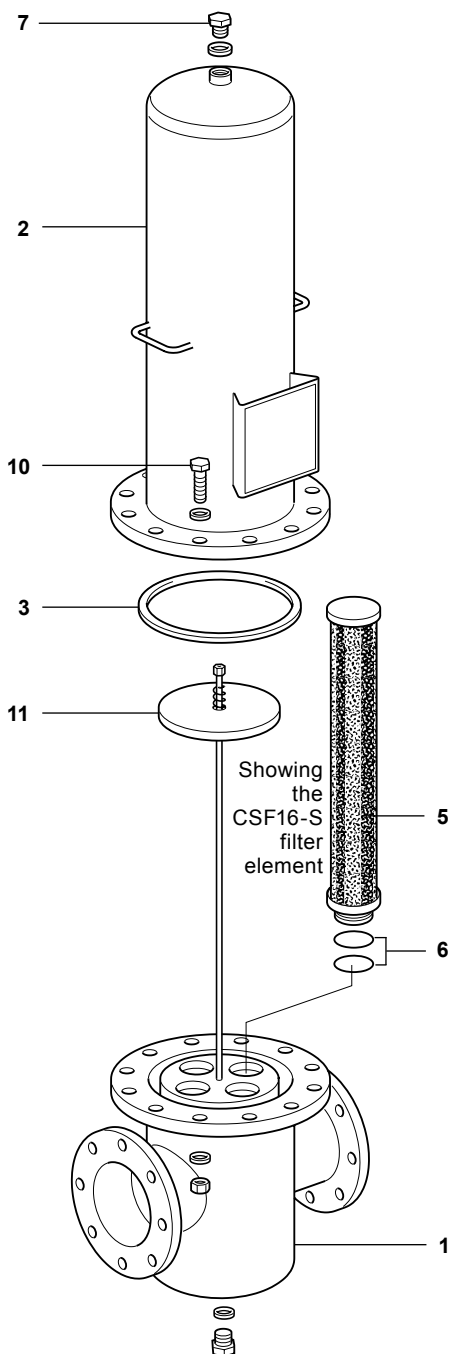

Fig. 8 DN100 to DN200
2. The housing ring (4) or housing bolts (10) holding together the filter housing head (2) and the filter housing bowl (1) should be unscrewed using the appropriate spanner. The filter housing head (2) can then be removed.
3. The filter element seals (2 off, item 6) should then be lubricated using FDA or DAB approved Vaseline or silicone oil, before fitting to the filter housing bowl (1).
4. The filter element (5 - please note that there are multiple elements for the larger sizes) needs to be gently pushed into the filter housing bowl (1).
5. **When multiple elements are fitted**, the filter support assembly (11) must be assembled and fitted as shown in Figure 8.
6. Ensure the filter housing seal (3) is fitted.
7. **For sizes DN8 to DN80:** The housing ring (4) should then be carefully placed into the seating land on the filter housing head (2), before then gently lowering the filter housing bowl (1) over the filter element and tightening the housing ring (4). The housing ring (4) is designed with a coarse thread to minimise the possibility of galling. Thread lubrication is not normally necessary. However, a FDA or DAB approved Vaseline or silicone oil may be used if required.